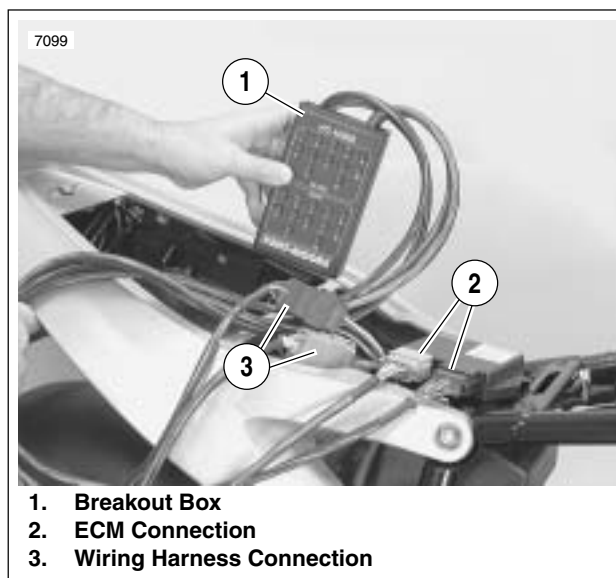

Figure 4-14. Installed Breakout Box
3. See Figure 4-14. Attach Breakout Box (1) to black connector [10].
1. See Figure 4-14. Depress latches on each side of connectors [10] (black) and [11] (gray).